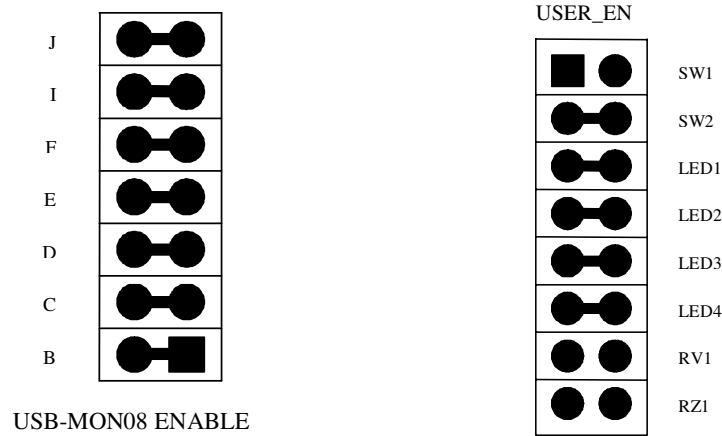

Figure 2. DEMO908QC16 Debug Settings
5. Check the jumper settings and make sure they are in the debug position in figure 2.
- Make sure all the jumpers on the USB-MON08 ENABLE header are installed. Refer to Figure 2.